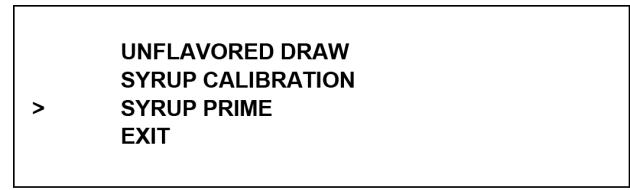

Figure-34
22. Press the Auto symbol or the optional Flavor symbol to scroll the arrow to SYRUP PRIME. (See Figure-34.)